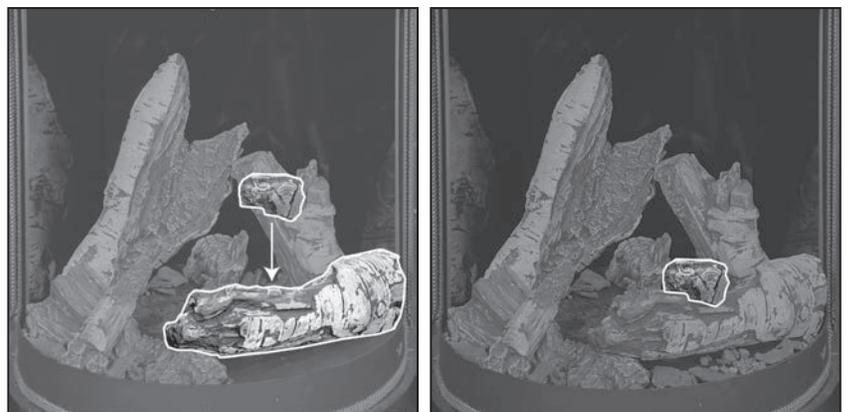

Figure 94: Step 8 - Log 8
STEP 8: Log 8 should notch onto Log 7 nicely. See Figure 94.